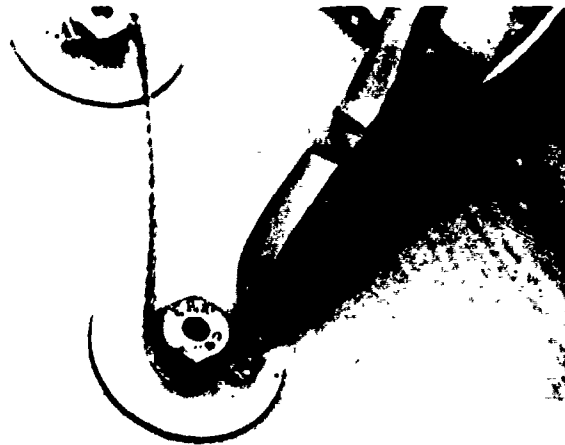

Figure 22. Wiring Safety Procedures.
21. Bend the pigtail into a loop and flat against the bolt head so that it can't become a snag. See figure 22.